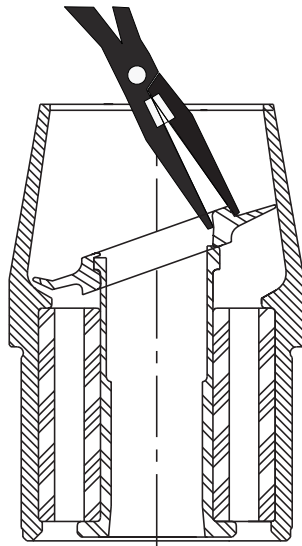

Figure 8-20. Removing the Valve Seal from the End Cap.
1. Use a sharp knife or hack saw to cut through the Valve Seal (10). Using a large screw driver or needlenose pliers, pry the Valve Seal from the End Cap. Discard the Seal. See Figure 8-20.